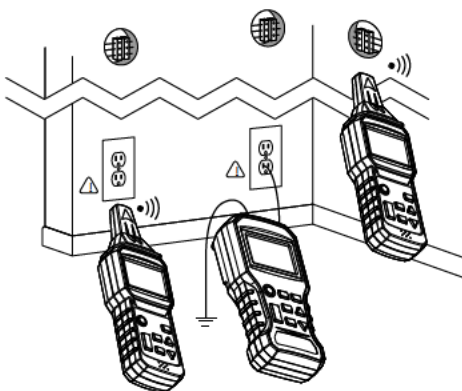

Figure 2 Locating and tracing lines and receptacles
3. Refer to Figure 2 in the Application Illustrations section for examples.